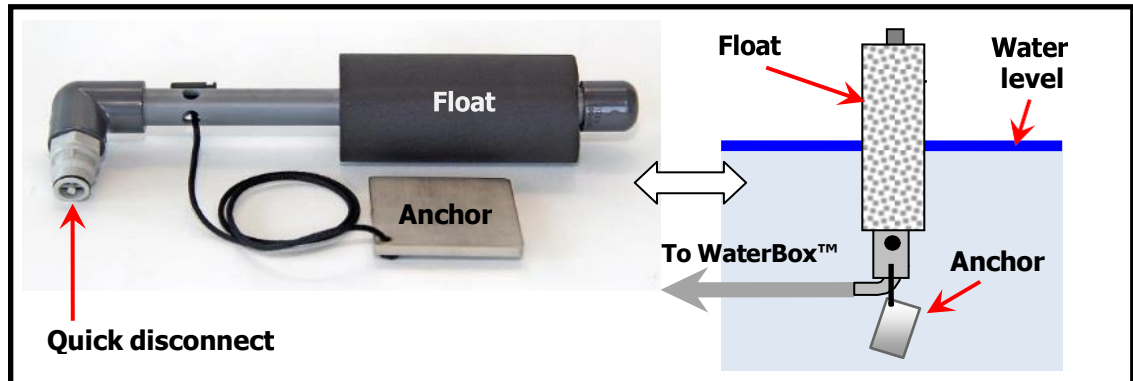

Figure 4: Schematic of the use of the float intake device.
1. Install the two (2) CB Tech Nanomesh™ Stage I filters in the Stage I housings (closest to pump) and the CB Tech Nanomesh™ Stage II filter in the Stage II filter housing (farthest from pump).
- A **Option #1: Float Intake.** Place the flotation device in the water source so that the float is positioned as shown in Figure 4. The float intake is designed to float at the surface of the water source. An anchor with an adjustable lead is